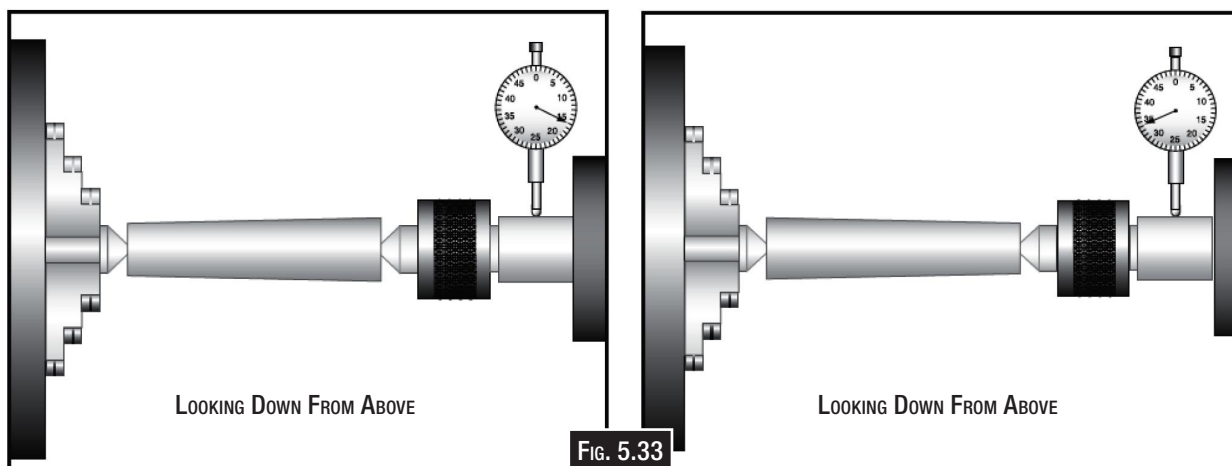

FIG. 5.33
4. Attach a lathe dog to the chuck bar stock from step 1, and mount between the centers. (Fig. 5.33)
6. Mount a dial indicator so that the plunger is on the tailstock quill. (Fig. 5.33)
7. Measure the stock with a micrometer. If the stock is wider at the tailstock end, the tailstock needs to be moved toward the front of the lathe half the amount of the taper. If the stock is thinner, at the tailstock end, the tailstock needs to be moved toward the rear of the lathe by half the amount of the taper. (Fig. 5.33)